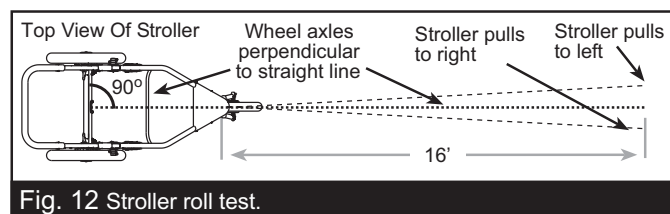

Fig. 12 Stroller roll test.
*Note: Tracking adjustment can only be performed with the stroller fork locked out (Jog Mode). Roll test the stroller as described below. It is recommended you have someone assist with this task in order to catch and return the stroller. Fig. 12 illustrates the roll test process.*
below until tracking is satisfactory. Fig. 12 illustrates how to interpret the results.